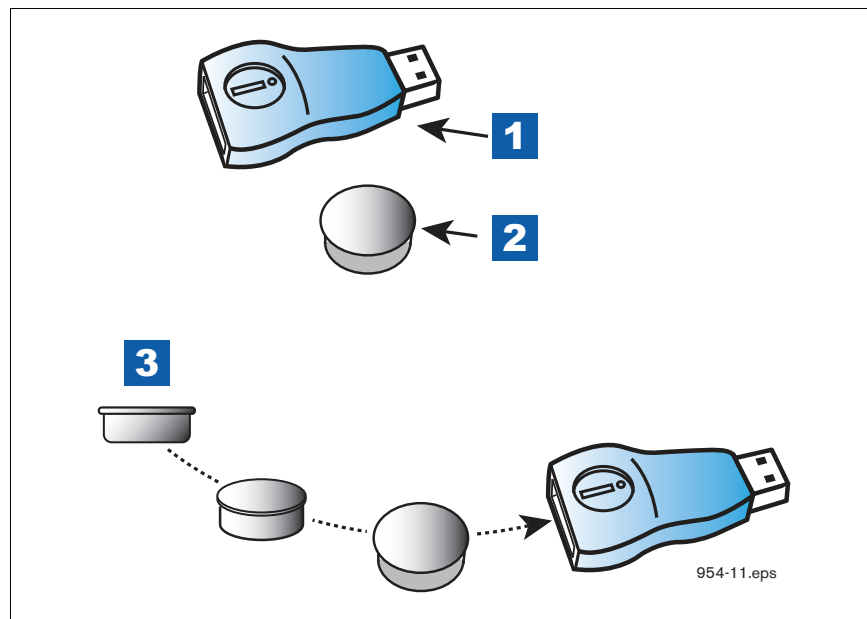

Figure 8. Inserting i-Button into USB Adapter
1. Get the USB Adapter and upgrade i-button from the upgrade kit. Remove the plastic end cap from the USB Adapter and Insert the i-button in the adapter as shown in Figure 8 below.
LEGEND FOR NUMBERED BOXES IN Figure 8